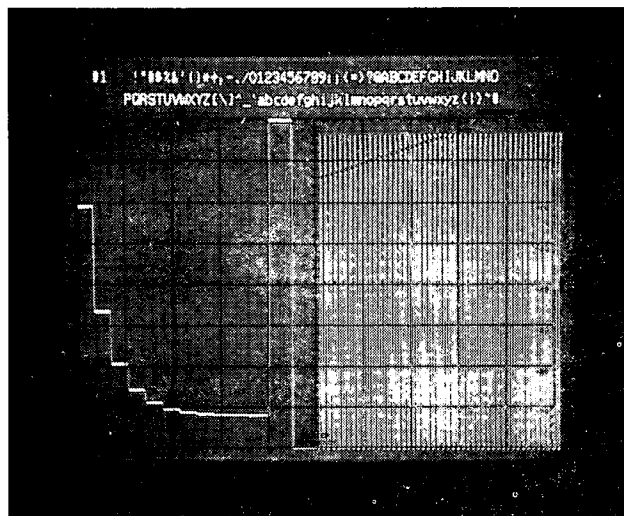

Figure 5-8. CRT Display of Test Routine #1
22. Press PLOT CHAR to view test routine #1. Observe displayed strokes in right half of CRT display. Both long and short strokes are displayed. Short strokes are above inverted 'V' and long strokes are below inverted 'V'. (See Figure 5-8.) If inverted 'V' is not symmetrical, refer to Stroke Generator adjustment.